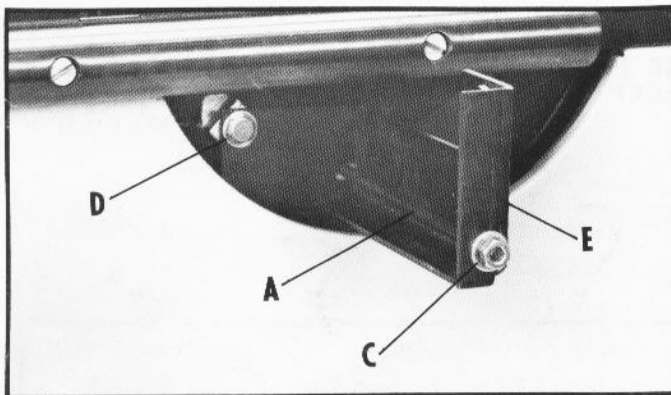

Fig. 15
2. Assemble the bracket (E) Fig. 15, to the threaded rod (A) and fasten finger tight using the washer, lockwasher and nut (C). The hex head screw, washer and lockwasher (D) are used to fasten the left side of the bracket to the sliding trunnion bracket.